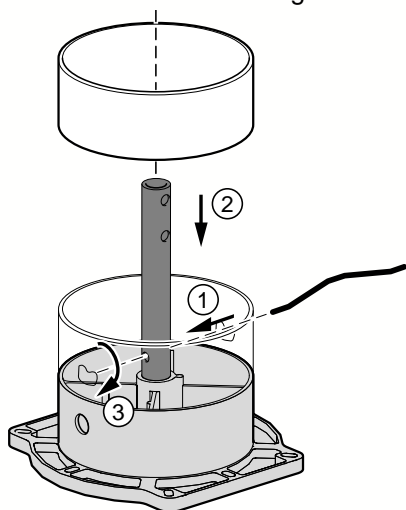
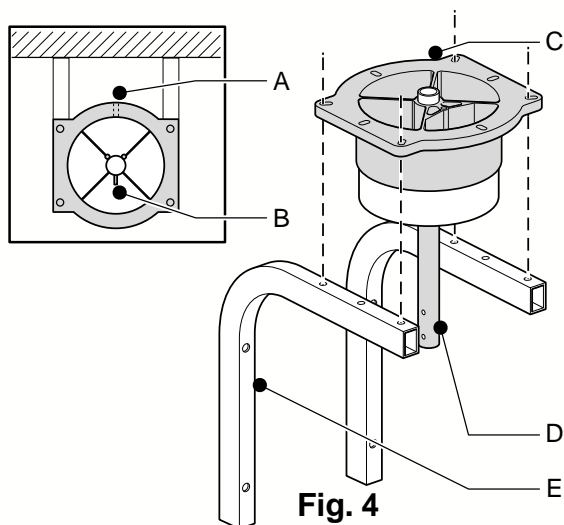
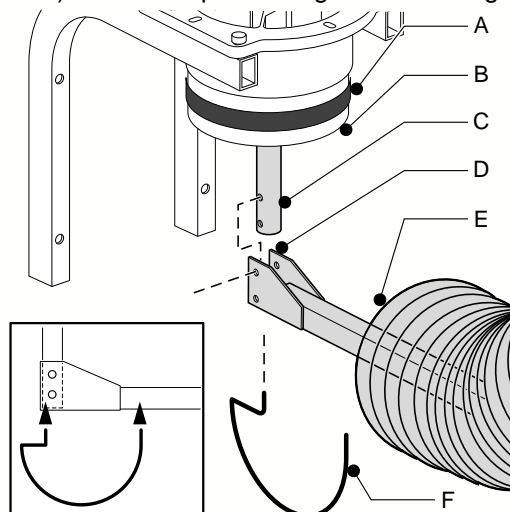

Fig. 3
Fig. 4
Fig. 5
The rotating hinge of the arm comes in three pieces: Metal rotating hinge, red plastic ring, and clamping pin. Refer to Figure 3. Mount the red plastic ring to the metal rotating hinge by fitting the clamping pin through the hole in the rotating rod, and snapping it into place on the U-shaped indents on the red plastic ring. The lip of the ring should fit securely against the top edge of the rotating flange, yet rotate with the rod. The assembly should look like Part C in Figure 4.
Position the rotating hinge on the wall mounting bracket (See Fig. 4) so that the cable hole (Fig. 4, Item A) is on the wall side. Use the four 3" bolts with washers and nuts to secure the rotating hinge to the wall mounting bracket.
Rotate the hinge rod (Fig. 4, Item D) so the stop pin (Fig. 4, Item B) is in the front. Mount the hanging adapter (Fig. 5, Item D) to the hinge rod using (2) 1.75" bolts with washers and nuts. Mount the spring bracket (Fig. 5, Item F) into the two holes as shown. Position one 8" rubber band (Fig. 5, Item A) and the flexible hose supplied with the mounting bracket (Fig. 5, Item E) on the red plastic ring of the rotating hinge.